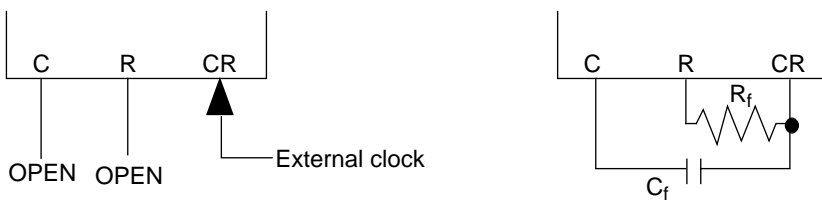

Figure 1 Oscillator Connection in Master Mode
- CR Oscillator:** The CR oscillator generates the HD66523R operation clock. During master mode, since the operation clock is needed, connect oscillation resistor R_f with oscillation capacitor C_f . When the external clock is used. Input external clock to pin CR and open pins C and R (Figure 1).